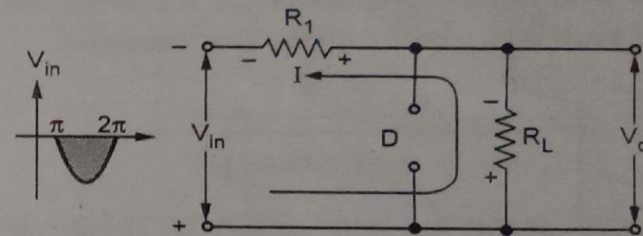

Fig. Q.43.2 Operation during negative half cycle
- During **negative half cycle** of input, the diode is reverse biased and acts as open circuit. The entire current flows through R_L as shown in the Fig. Q.43.2.